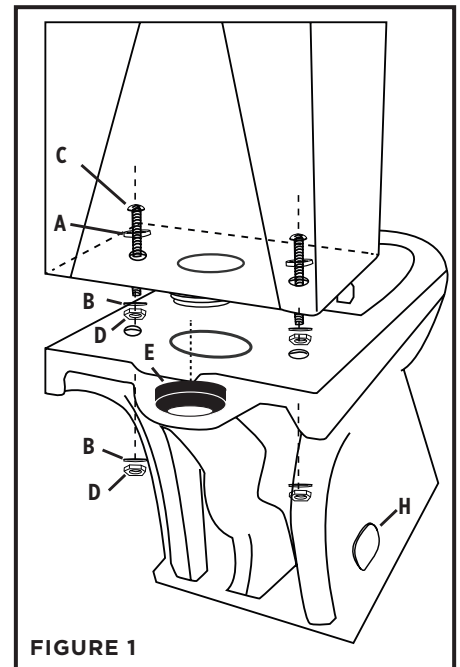

FIGURE 1
1. Install tank to bowl as per diagram (FIGURE 1).